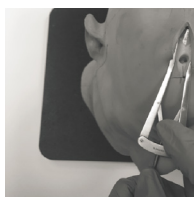

Figure 3
- Insert the provided self-retaining scalp retractor to expose skull (Figure 3).